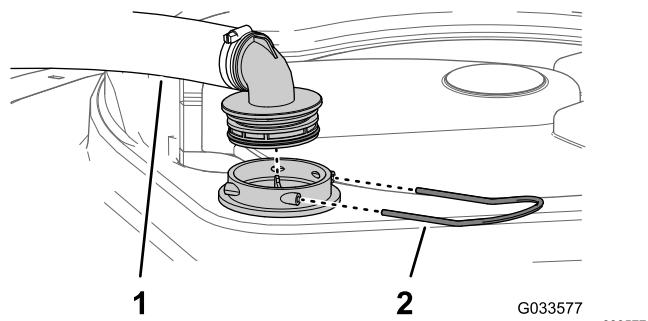

Figure 102
2. At the top of the sprayer tank, remove the retainer that secures the hose fitting attached to the large hose from the filter housing (Figure 102).
3. Remove the hose and hose fitting from the filter housing (Figure 102).